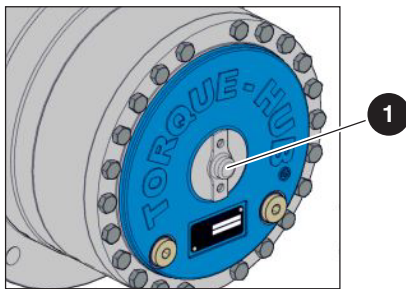

Figure 21 Disengage cap
- b. Remove disengage cap and rotate to outward position (refer to Figure 21).
3. Locate disengage cap (refer to Figure 21).